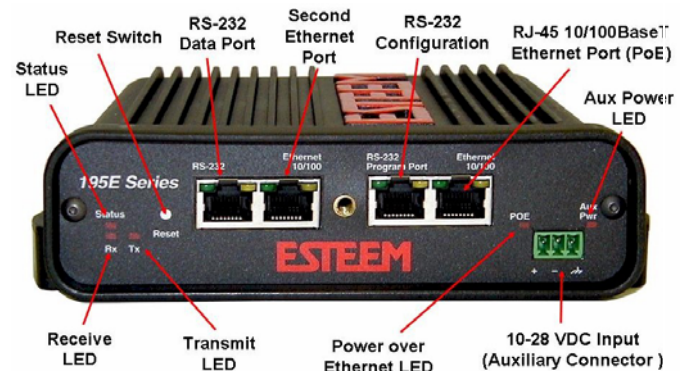

Figure 4: 195E Front Panel Overview
The RJ-45 serial data port is the far-left port on the face of the 195E (Figure 4). Using the ESTeem AA0621.1 interface cable, the 195E can be connected to a standard DTE-device (PC) with a male 9-pin Sub-D connector. The complete cable configuration is available in Appendix C – Interface Ports.
If you are using multiple ESTeem repeater links to send the serial data to remote locations, the value for the maximum bridge link needs to be increased to a number greater than the longest repeater chain. For example, if you are using four repeater (peer) links to send the serial data between two or more sites the number will need to be five (5) or greater (Figure 4).